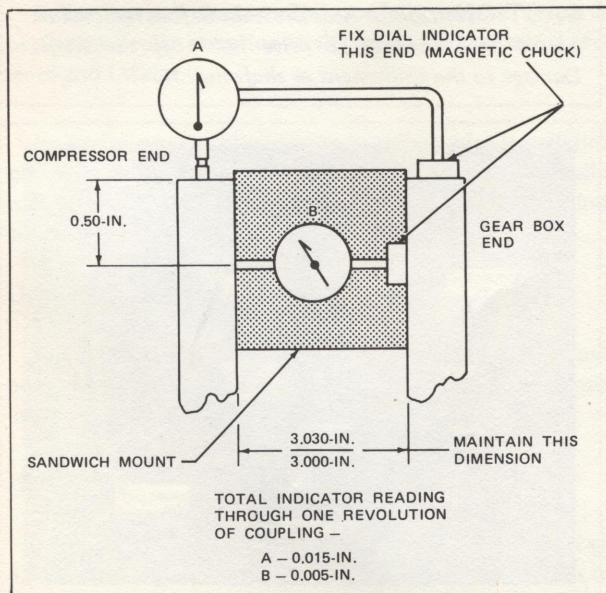

FIG. V-16. INDICATOR MOUNTING.
4. Mount an indicator on the large compressor coupling flange and indicate the O.D. of the gear-unit flange. Rotate fan gear-unit flange and check total runout. Total indicated runout should not exceed 0.010 in., Figs. V-16 and V-17.